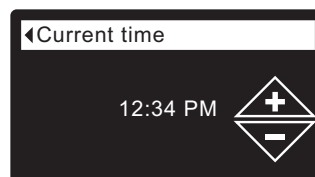

FIG. 32
5. Press the SELECT (O) button to display the Current time screen (See Figure 32).